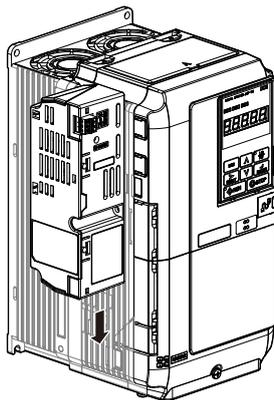

Figure 10 Installing the 24 V Power Supply Option
2. Slide the 24 V Power Supply Option as indicated by the arrow in Figure 10 to lock it into place.